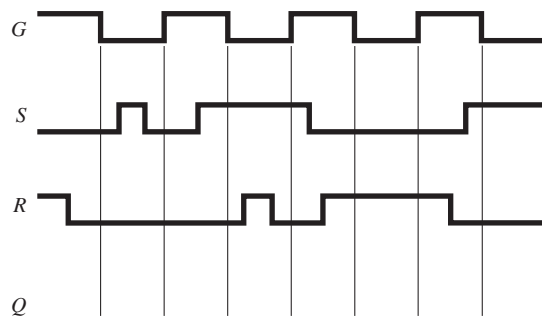

Figure P3
3. Repeat Problem 2 for the input waves shown in Figure P3.